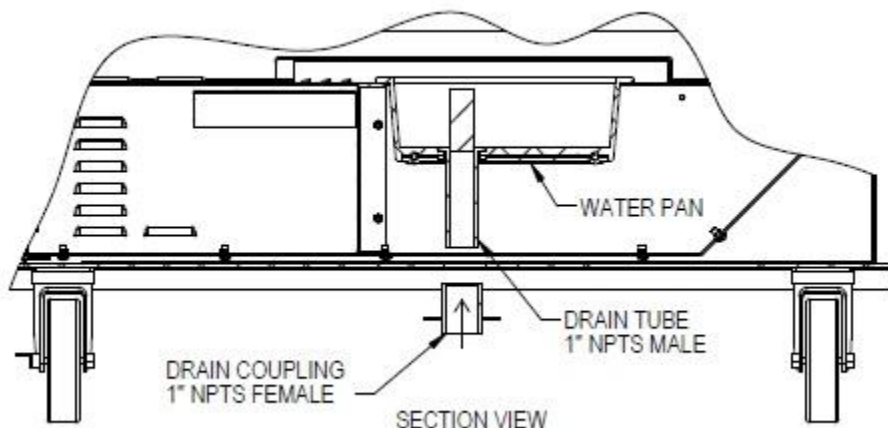

Fig. 1
3. Install 1" NPT drain coupling, if needed (fig. 1) and connect drain line (by others) This will be used to drain the cast aluminum water pan.
6. Open the cartons containing the pan supports and install all supports in cabinet. Starting from the bottom. Skip (2) slots between each support, to achieve a 4 1/2" spacing between racks.
If necessary, the humidity-heating module can be removed by, first disconnecting the external drain and removing the coupling,(fig.1). Then removing the two (2) black knobs (one located at each side on the module on the exterior of the cabinet). The module can be pulled out of the cabinet for additional cleaning. We suggest that you clean the water pan at least once a month with a solution of white vinegar and hot water. Allow white vinegar to remain in water pan overnight. Then use a soft cloth to wipe away any mineral buildup.
2. Disconnect drain line and remove coupling (see fig. 1 page 4)